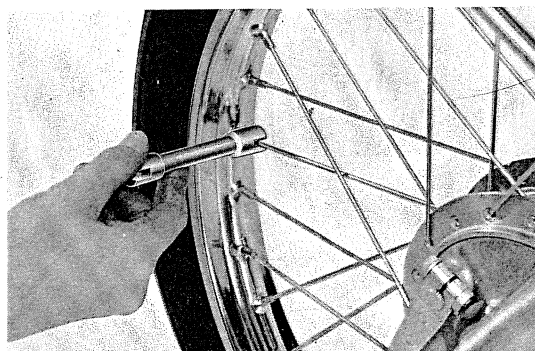

Fig. 114 Spoke retightening
- 6) Check the spokes for damage, bent and loosening. Tighten the loose spokes, straighten the bent spokes and replace the broken spokes with new one. (Fig. 114)